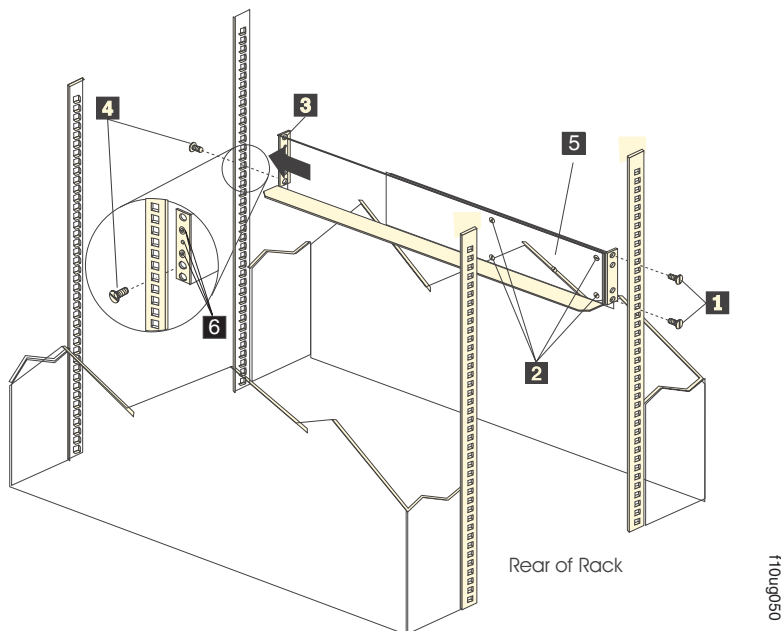

Figure 12. Installing the support rails
**Note:** Refer to Figure 12 on page 24 while performing these steps.
**Note:** The support rails are not marked as Left or Right. However, each rail can be correctly mounted on only one side of the rack cabinet. The rails should be mounted with the alignment pins at the front of the rack cabinet. Figure 12 shows the installation of the left support rail.
- d. From the back of the rack cabinet, insert the two 6/32 in. screws ( **5** in Figure 12 on page 24), one on each side, in the holes located on the tab on each side of the unit. Tighten the screws.